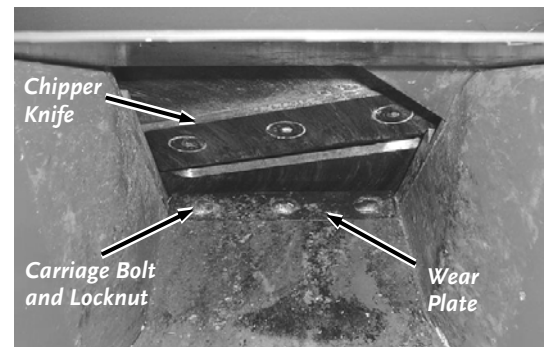

Figure 32
2. Remove the three Locknuts and Carriage Bolts that attach the Wear Plate to the Chipper Assembly and then remove the Wear Plate (**Figure 32**).